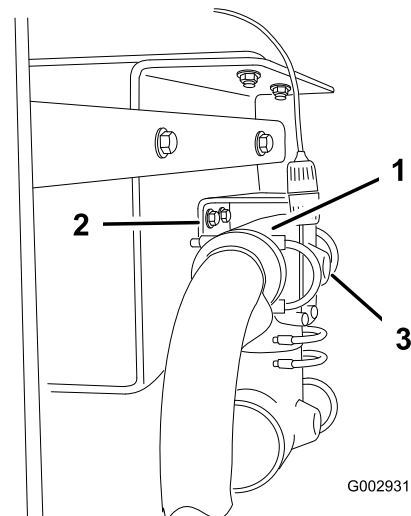

Figure 12
6. Remove the fasteners securing the tee behind the boom supply valve so that the tee will drop down, hanging on the hoses (Figure 12).
7. Carefully drill a hole (1/4 inch dia) in the face of the port on the back of the tee (Figure 12).